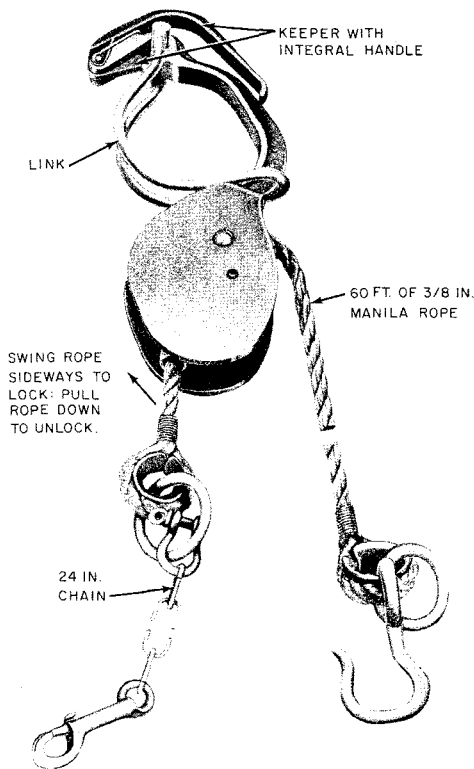

Fig. 2—B Aerial Handline
**3.01** The B Aerial Handline, Fig. 2, attaches to the strand in the same manner as the Aerial Handline. It is intended primarily for one-man use and is equipped with a locking mechanism which permits clamping the rope temporarily to hold the load at any desired height to free the hands of the workman. The rope is clamped by pulling the fall line away from the load line and is released by a straight pull on the fall line. This handline is fitted with 60 feet of 3/8-inch manila rope equipped with ring in one end and ring and hook in the other end. The 24-inch length of chain can be used in this handline as described in 2.02 for the Aerial Handline. Because of its lower load capacity due to the smaller rope and locking mechanism, this handline is restricted to raising and lowering loads not exceeding 100 pounds.